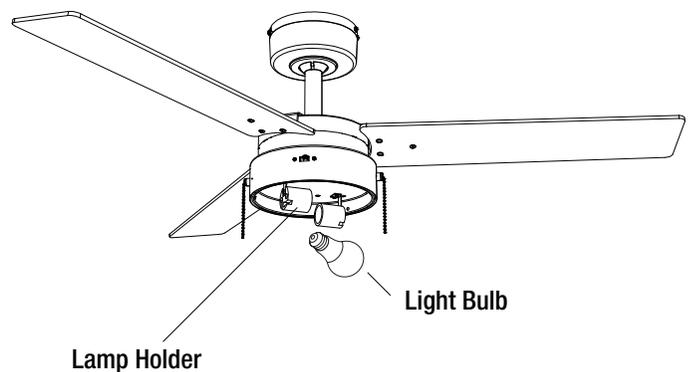

Figure 15
- Install light bulbs (max. 9W, LED, medium screw base) to the lampholders (Figure 15).